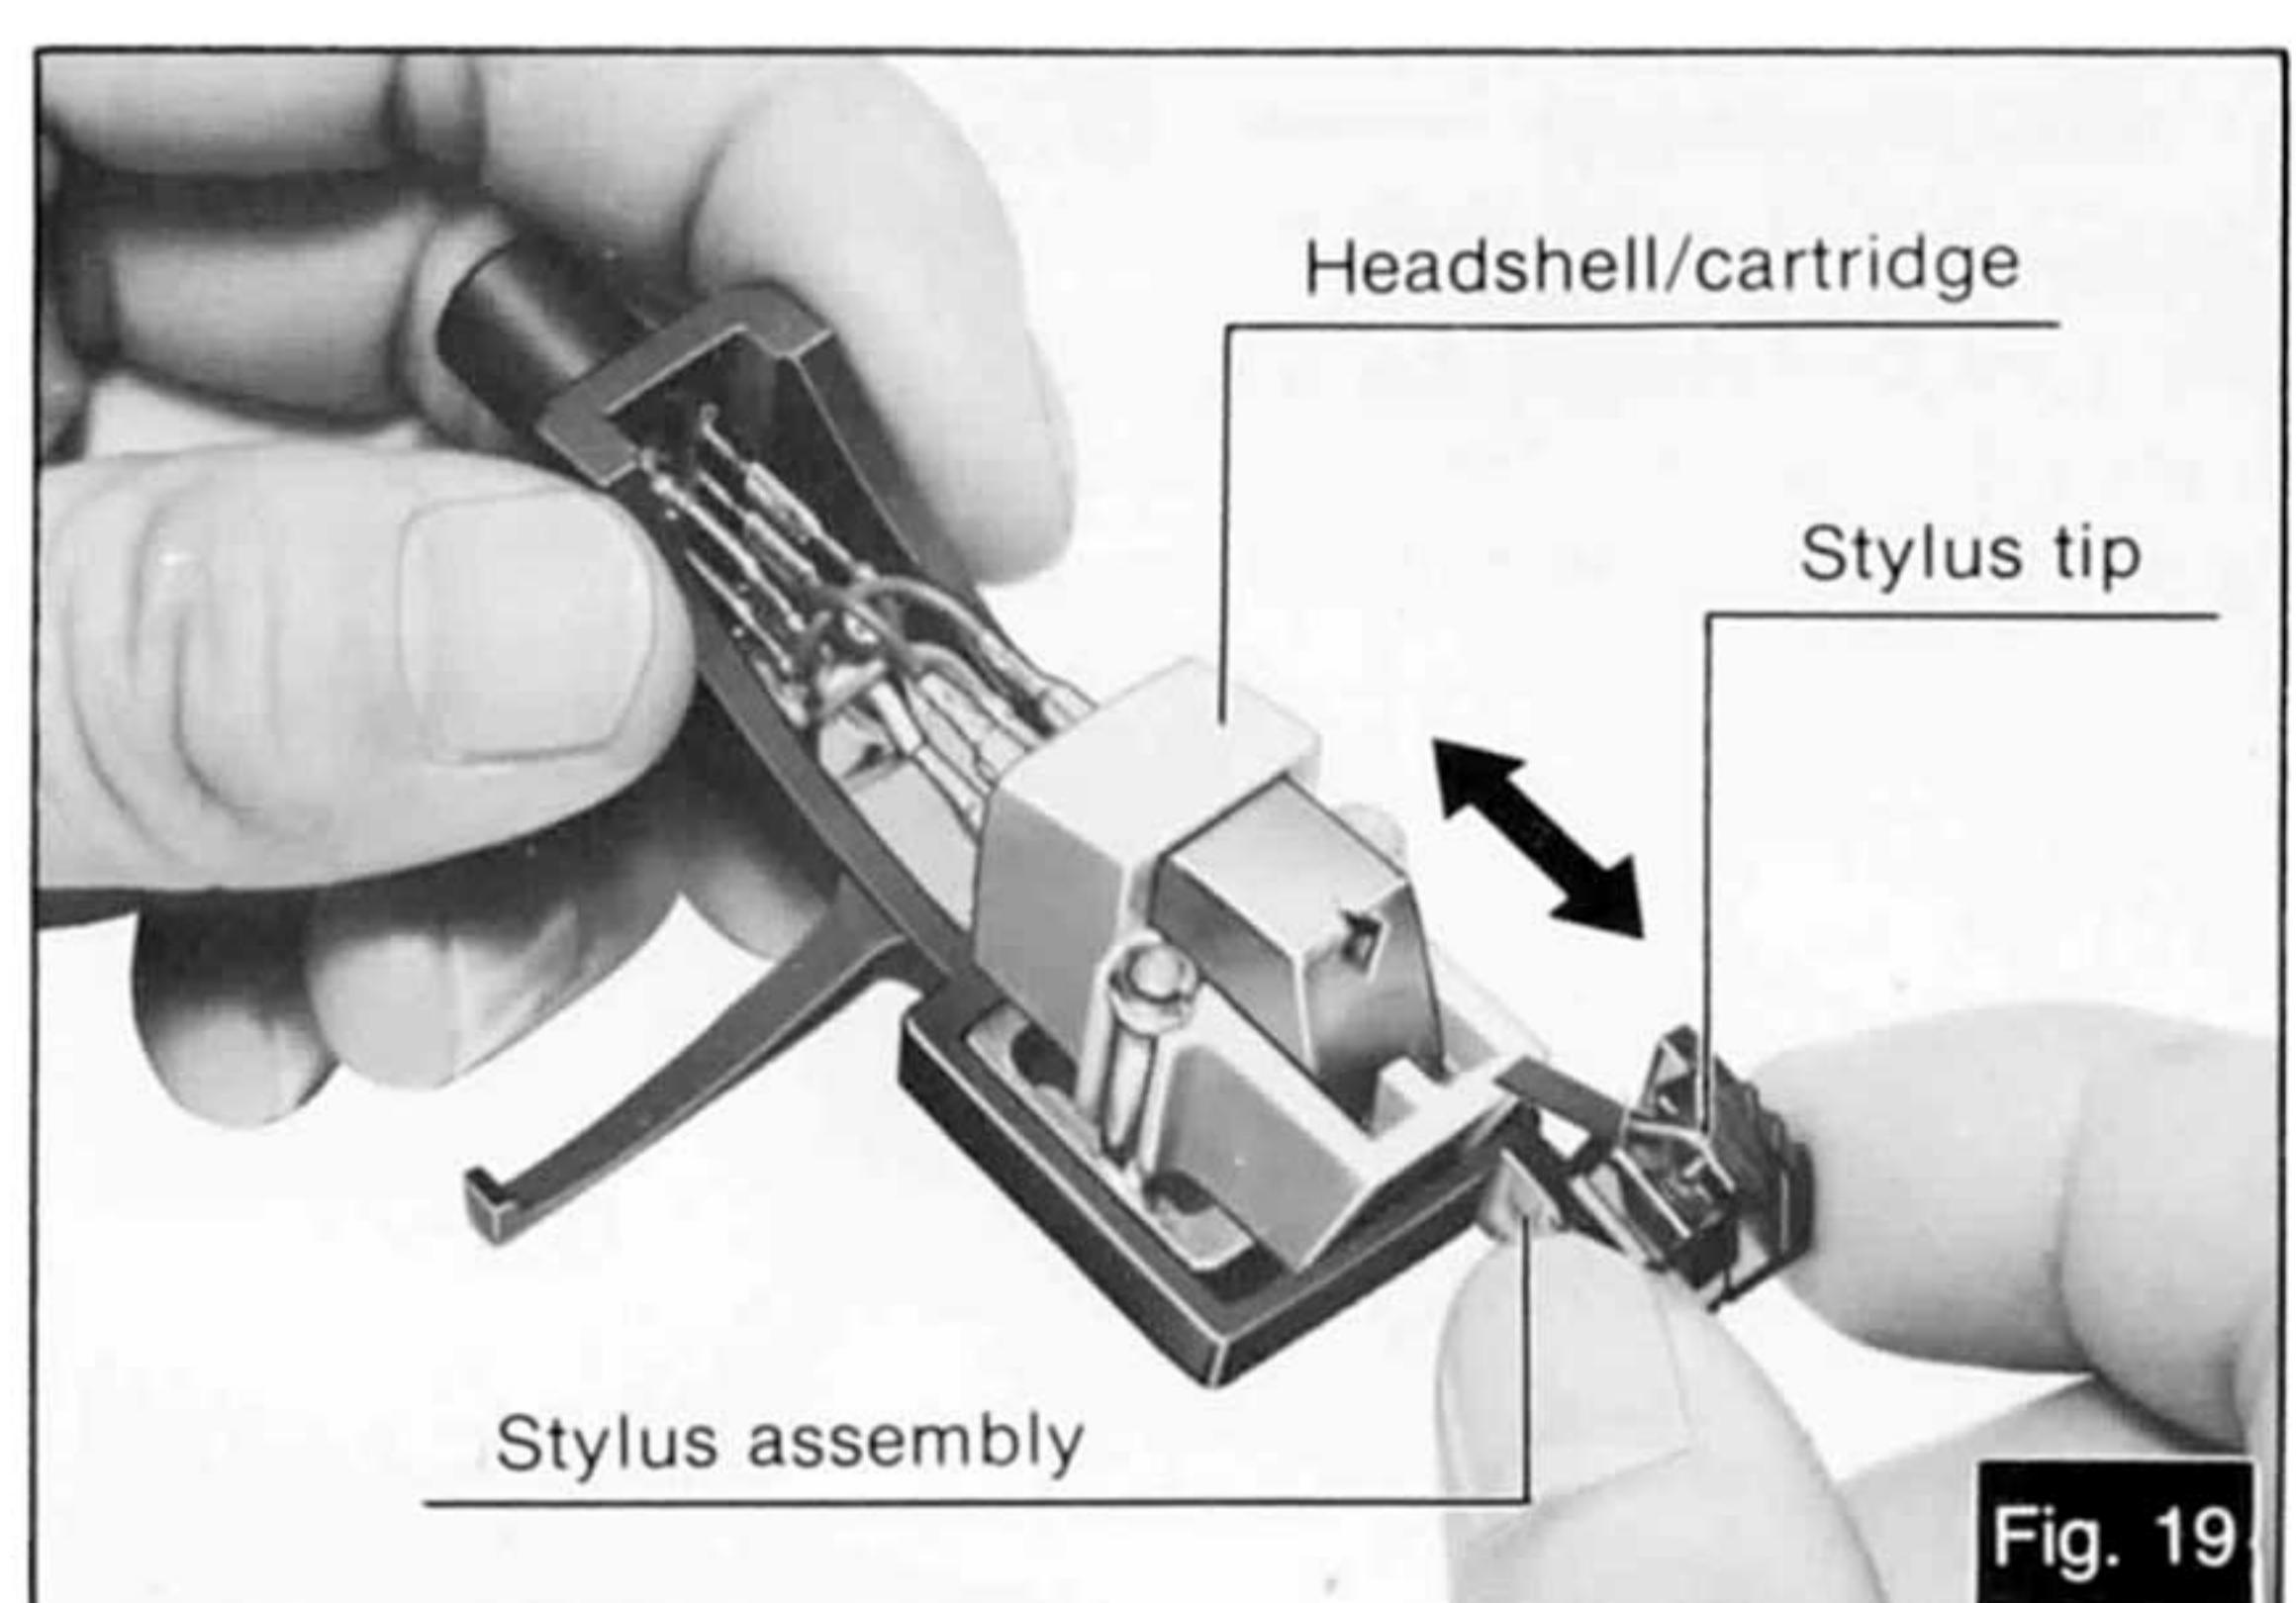

Fig. 19
1. Remove the headshell/cartridge from the tubular arm. Hold the stylus assembly with your fingers and withdraw it slantwise, as shown in the picture. (See Fig. 19.)